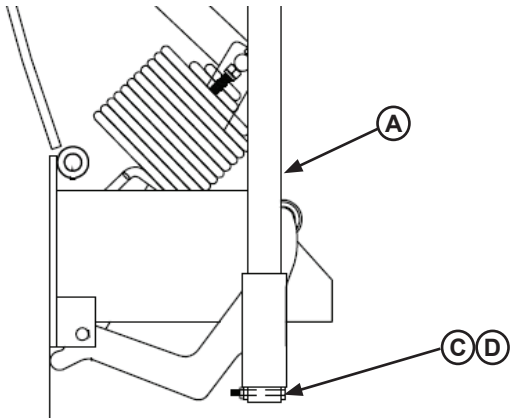
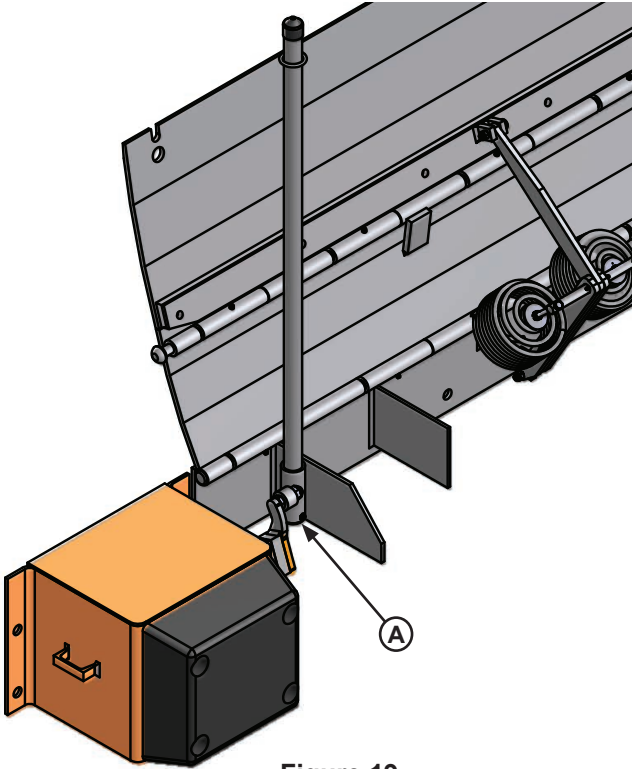

Figure 18
Figure 19
Put handle (A) into maintenance prop position (B) by removing bolt (C) and locknut (D) at base of handle assembly as shown in Figure 18. Pull handle out of roller arm assembly and place into maintenance prop receiver (B). See Figure 19.